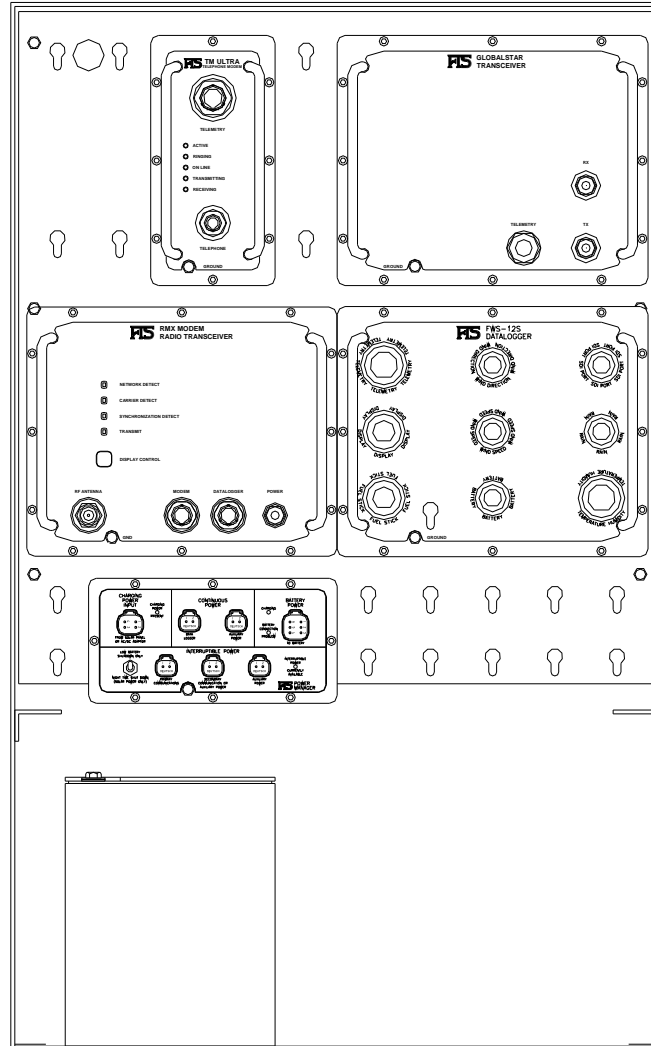

Figure 5: RMX Mounting Diagram
The FTS RMX Radio Modem is designed to be mounted in a standard FTS equipment enclosure on a keyway mount panel as shown in Figure 5; however, the RMX enclosure is completely weatherproof so an external enclosure is not required. If required, the RMX can be mounted directly on a mast or on a client supplied panel (e.g. piece of plywood).
- 4) Mount the equipment into the cabinet as shown in Figure 5. If a Globalstar modem is present at the site, it must be mounted in the location shown on Figure 5 in order for the antenna cables to reach the antenna which is mounted on the cabinet roof.